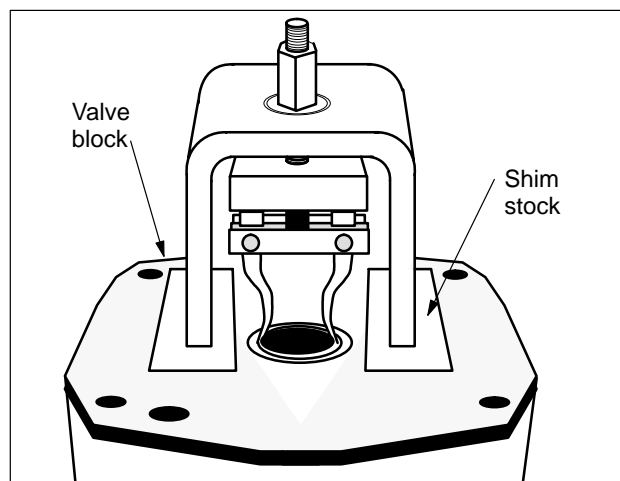

Figure 20: Valve Block Bearing Race Removal Tool w/shim stock
- Bearing race removal tool and shim stock (see Figure 20)